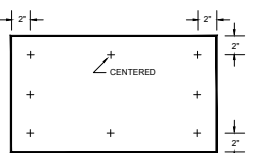

FIG. 2
8. When using Type 2 HY-C Stove Board / Floor Protector / Wall Shield / Ember Protector as a wall shield, use the HY-C Installation Kit (Part # ULCK - sold separately) by positioning the boards against the combustible wall to be protected. Hold each board, in turn, flat against the wall in its position, and drill 1/4" holes completely through the board and into the wall behind. See hole pattern in Fig. 2.